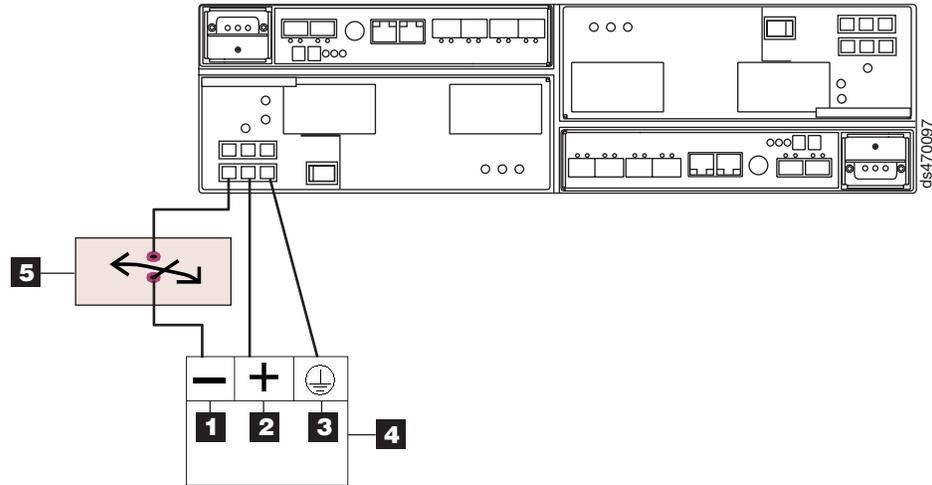

Figure 87. DC wiring from DS4700 Express to disconnect device and DC power source
4. Complete the wiring from the disconnect device to the terminal marked -48V of the Reliably grounded safety extra low voltage (SELV) DC power source. Connect the POS RTN and ground lines of the DC power cable to the terminals marked POS RTN and GND on the DC power source, as shown in Figure 87. For maximum protection against power loss, connect each of the two DC power supplies to a different power source.